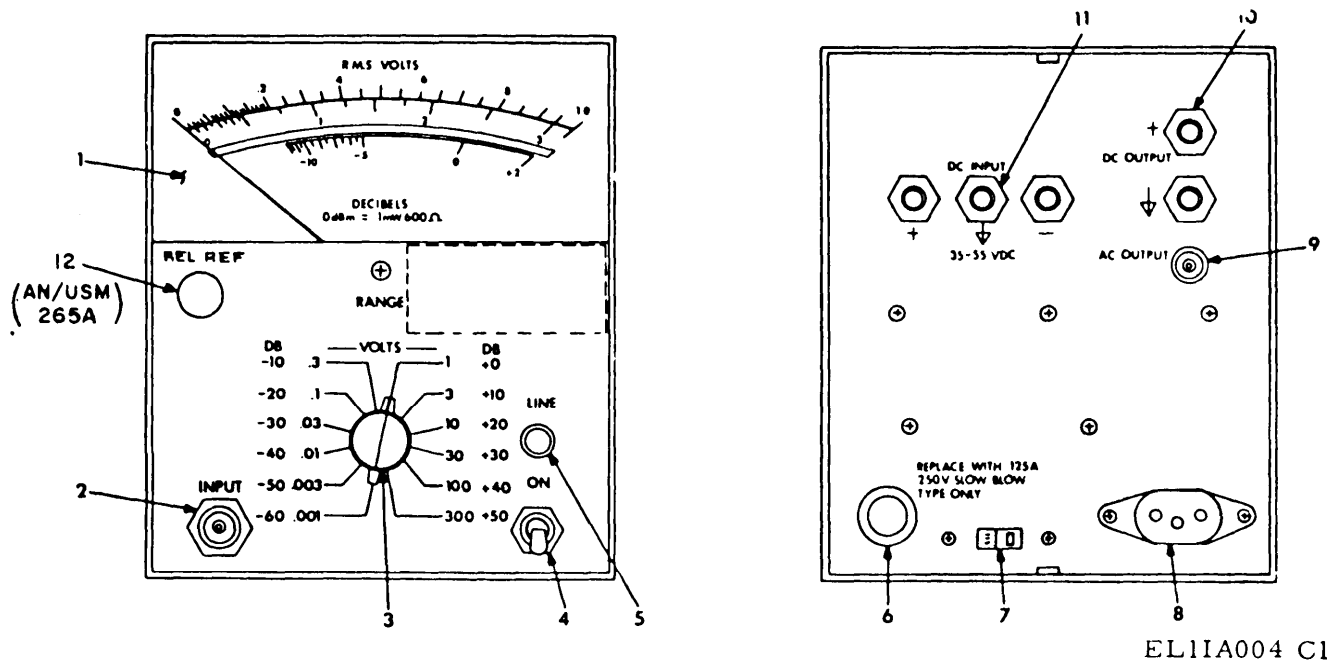

Figure 3-1. Voltmeter, Electronic ME-30F/U and AN/USM-266A, controls and indicators.
Table 3-1 lists the operator's controls and connectors. Figure 3-1 illustrates these controls and connectors.
b. *Dc operation.* To operate the voltmeter with battery power, connect two 35 to 55 volt batteries as shown in figure 3-1. Since the front panel power ON switch has no effect during battery operation, the switch in figure 3-1 can be used as a convenient method of disconnecting the batteries when the instrument is not in use. Two 35 volt batteries will deliver approximately 75 ma and two 55 volt batteries will deliver approximately 50 ma.